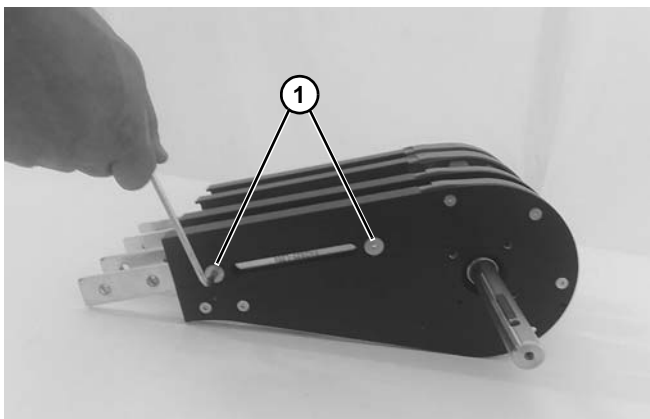

Figure 118
5. Remove two screws (**Figure 118, item 1**) on side of drive spindle.